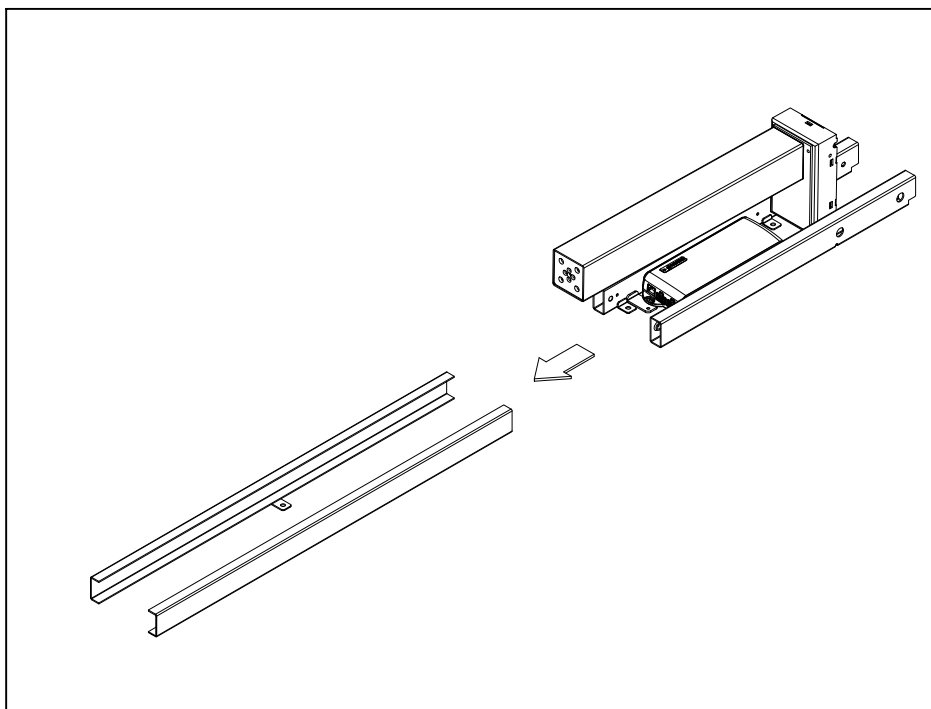

FIGURE 3
3. Remove the existing channels by sliding them out (Figure 3).